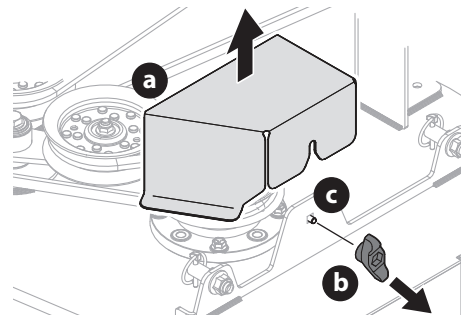

Fig. 39
3. To remove the belt covers (a), remove the wing knobs (b) from the carriage screws (c) securing them to the deck (Fig. 39).